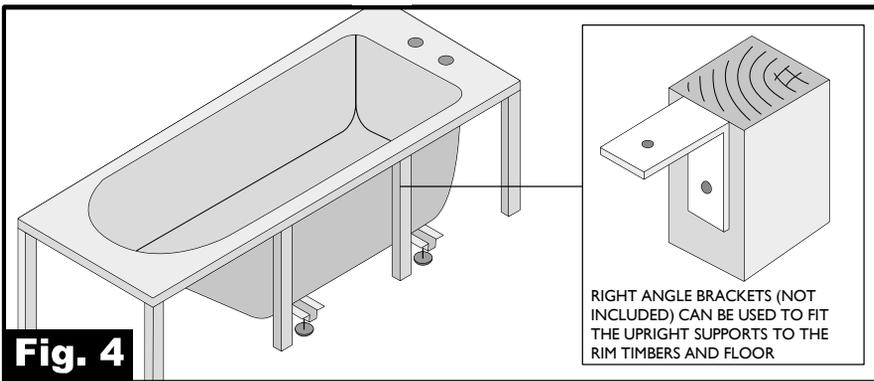

Fig. 4
On the remaining unsupported edges of the bath Installation we recommend the fabrication and fitment of additional wooden supports / framework as per illustration. This example involves the use of timber (chipboard) pads adhered to the underside rim which then support vertical timber batons which are fixed in place with the use of L brackets (Fig. 4/5).
13. Fit additional wooden supports/framework along the un-supported front and side rims of the bath as per illustration (Fig.4). Finally fix supporting framework to bath and floor.